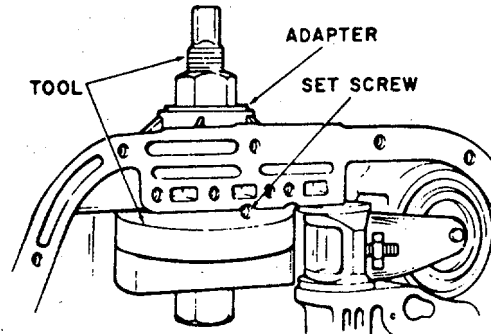

Figure 5-11. Location of Overrunning Clutch Cam
2. Place the spring retainer (2) on the cam (1), making sure the retainer lugs snap firmly into the notches on the cam.
4. Install cam installer C-3863 and adapter SP-5124as shown in figure 5-11. Tighten nut on tool to seat cam in the case. Make sure cam is firmly bottomed. Then install cam retaining setscrew. Stake the case around the setscrew to secure.
6. With transmission case in upright position, install the clutch race (5), 12 rollers (3) and 12 springs (4). Check all parts to be sure that they are positioned properly in the transmission case.